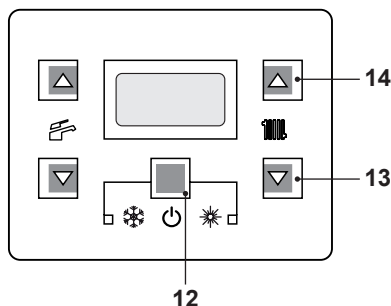
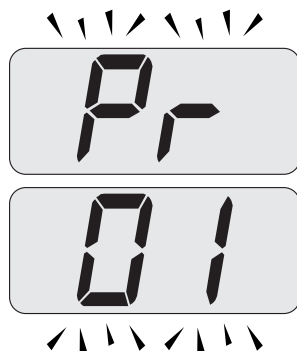
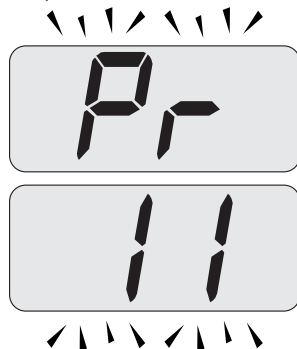

Fig. 8.14
Fig. 8.15
Fig. 8.16
- Enter in "programming mode" by sequentially pressing keys 12 - 13 - 14 (Fig. 8.14) for 10 seconds at the same time until the letters **Pr** that alternate with code **01** are displayed on the LCD display, indicating that "parameter 01" (Fig. 8.15) has been activated.
- Scroll the various parameters using keys 13 or 14 until the letters **Pr** that alternate with code **11** are displayed on the LCD display, indicating that "parameter 11" (Fig. 8.16) has been activated.
- Press keys 12 and 14 (Fig. 8.14) at the
- By pressing key 12 (Fig. 8.14) confirmation of the inserted value is obtained.
- Press keys 12 and 13 (Fig. 8.14) at the same time to exit without changing the value (return to the parameters list Fig. 8.16).
- Press sequentially keys, 12 - 13 and then 14 (Fig. 8.14) and hold in for 10 seconds to exit the "programming mode".